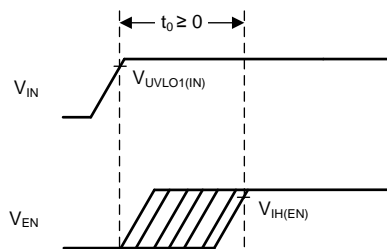

Figure 50. Sequencing Diagram
- V_{BIAS} and V_{IN} can be sequenced in any order, as long as V_{EN} is tied to V_{IN} or established after V_{IN}, as shown in Figure 50.